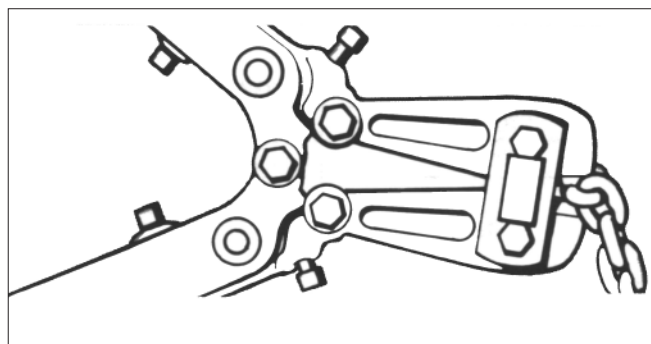

Figure 15. Cutting Chain with a bolt cutter
3. Use a bolt cutter (Figure 15) similar to the H.K. Porter No. 0590MTC with special cutter jaws for cutting hardened chain (1" long cutting edge).